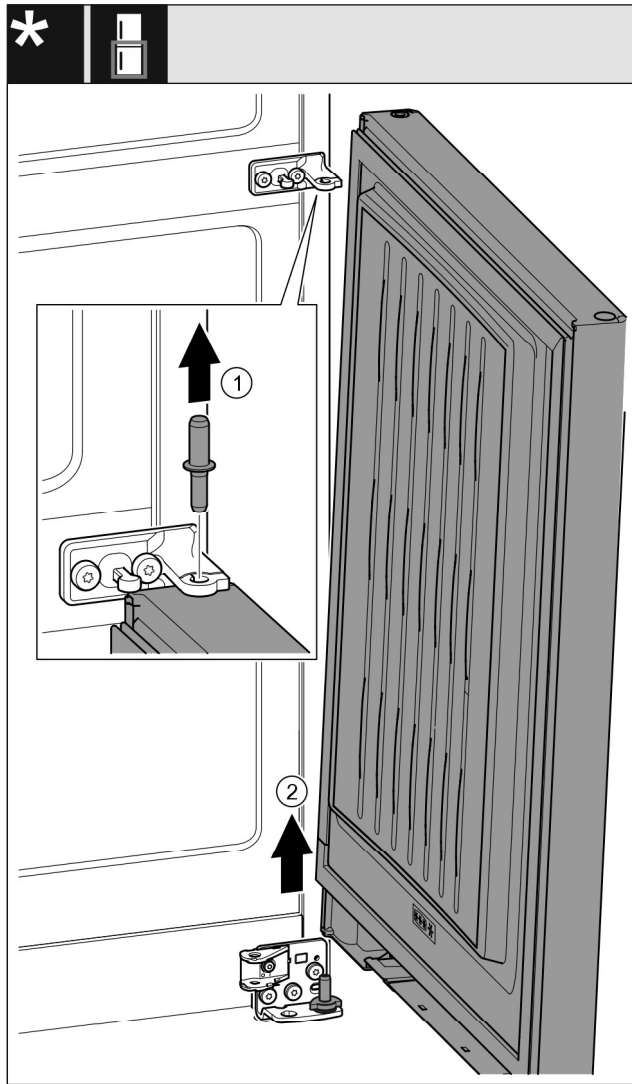

Fig. 24 \*
- Pull out the pin Fig. 24 (1) upward.\*
- Swivel out the door Fig. 24 (2), pull it upward, and set it aside.\*